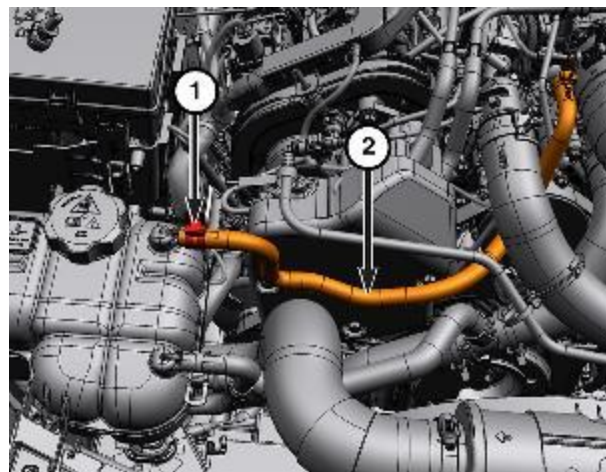

Figure 22 – Degas Hose
5. Release the hose clamp (1) and set the degas hose (2) aside (Figure 22).